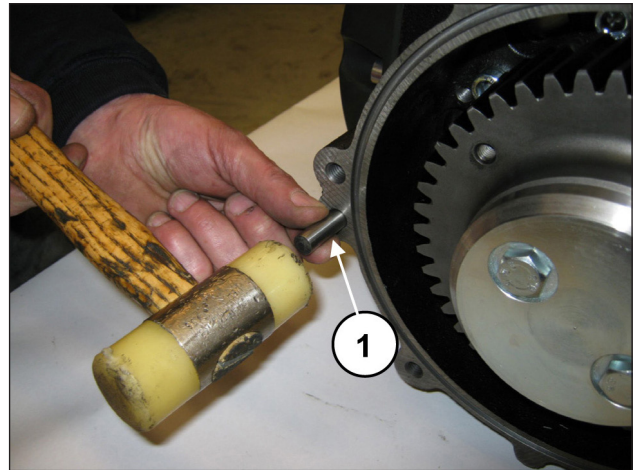
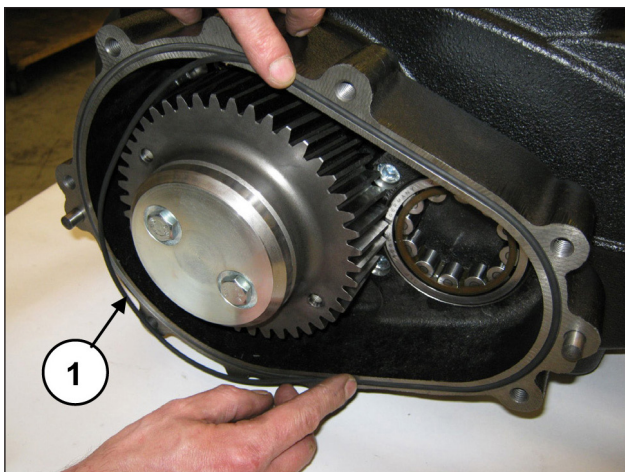

Fig. 78
Fig. 79
Apply the 2 Ø10x24 pins on the reduction gear box (pos. ①, Fig. 78) and insert the O-ring (pos. ①, Fig. 79).